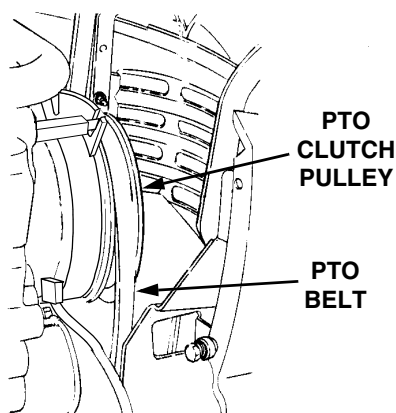

Figure 42
4. Open the tractor hood and remove the forward end of the PTO belt from the PTO clutch pulley on the front of the engine (Refer to Figure 42).